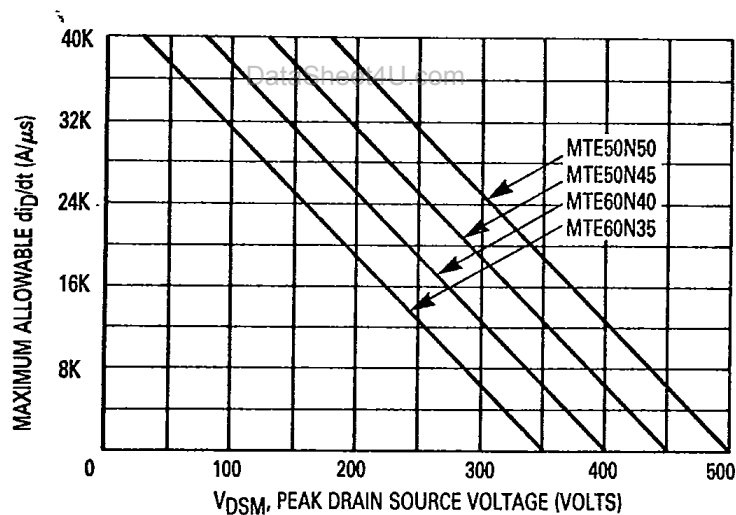

Figure 15. Maximum Allowable  $di_D/dt$  versus Drain Source Voltage
where  $P_D$  is the maximum power rating at 25°C,  $R_{\theta JC}$  is the junction-to case thermal resistance, and  $r(t)$  is the normalized thermal response from Figure 15, corresponding to the appropriate pulse width and duty cycle.
**Note 4** Even with good RF layout and ideal clamping below the maximum  $V_{(BR)DSS}$  of the device, significant potentials may be generated across the package drain and source parasitic inductances during rapid turn off of a large magnitude of current. These induced voltages which are internal to the package add to the clamp voltage. Therefore, to protect the chips from excessive voltage, the  $di_D/dt$  must be limited in accordance to the peak voltage seen across the terminals of the device. The **MAXIMUM ALLOWABLE**  $di_D/dt$  must be limited in accordance to the peak  $V_{DS}$  appearing at the device terminals as shown in Figure 15.